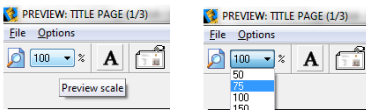

Fig. 318 – changing a scale of a documentation page preview
**Show properties panel** – shows the panel of element properties, where they can be edited (added or removed from the page) (Fig. 318);